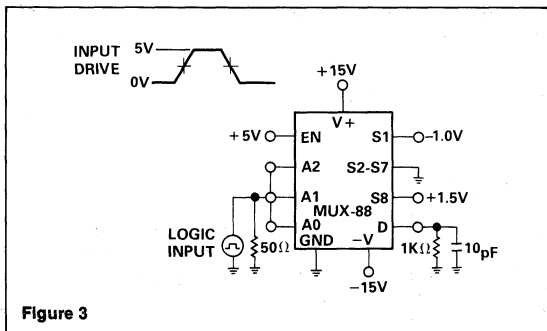

Figure 3
*Voltage = 500mV/Div, Time = 500ns/Div, See Break-Before-Make Circuit of Figure 3.